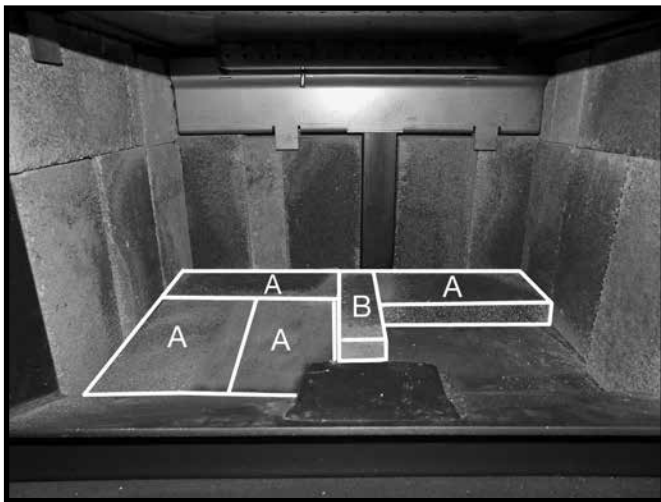

Figure 24: Left side A bricks in place.
6. Place two "A" bricks in front of the rear left hand side "A" corner brick (Figure 24).